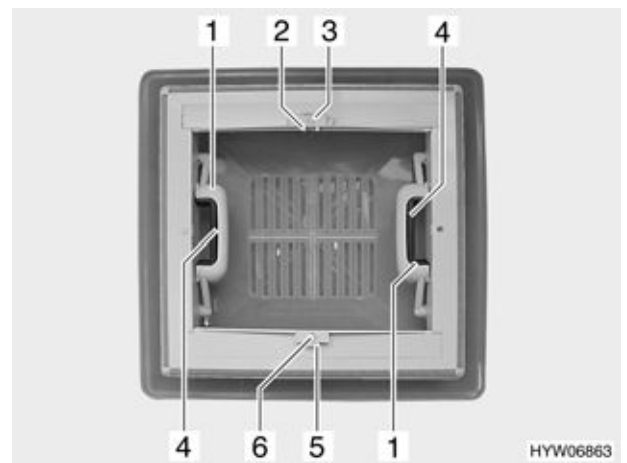

Fig. 53 Skylight with snap latch
- Push the spring-loaded latch (Fig. 53,4) towards the inside of the skylight. At the same time press the handle (Fig. 53,1) upwards.
- Push latch (Fig. 53,5) towards external side of skylight.
- Pull blind at the handle (Fig. 53,6) to the opposite handle of the insect screen (Fig. 53,2) and allow to engage.
- Clench the handle (Fig. 53,2). The latch is released.
- Use handle (Fig. 53,6) to return blind slowly to its initial position.
- Push latch (Fig. 53,3) towards external side of skylight.
- Pull insect screen at the handle (Fig. 53,2) to the opposite handle of the blind (Fig. 53,6) and allow to engage.
- Use handle (Fig. 53,2) to slowly return the insect screen.